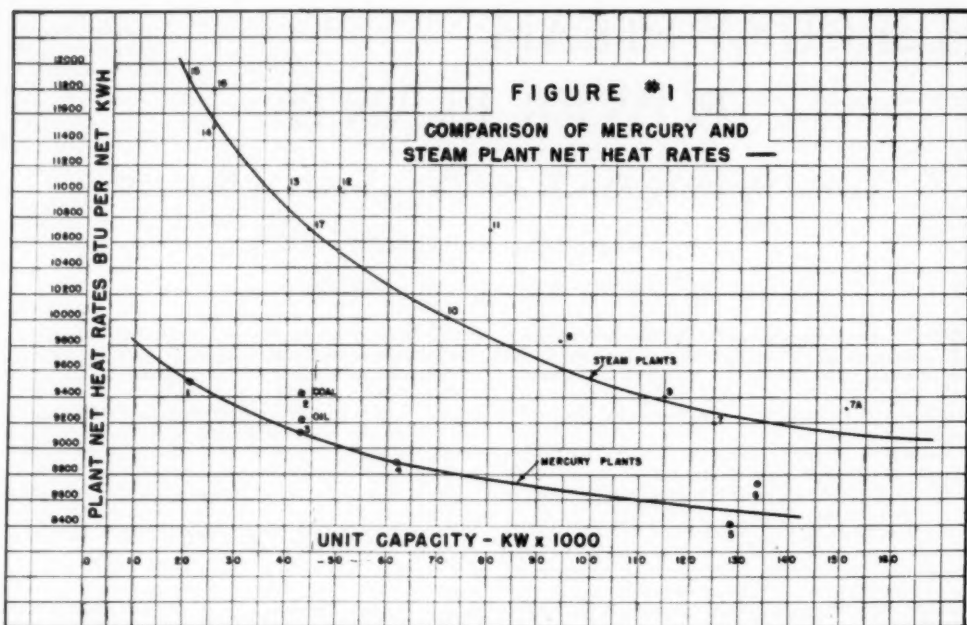

FIG. 1 COMPARISON OF MERCURY AND STEAM-PLANT NET HEAT RATES
A comparison of mercury and steam plant net heat rates is shown in Fig. 1, and it may be noted that the 40,000-kw Schiller Station (1),1 for example, using moderate pressure and temperature mercury-steam generating equipment, has a plant net heat rate that compares very favorably with the 100,000-kw Sewaren units (2) Fig. 1, items 8 and 9, and the 125,000-kw Philip Sporn No. 1 Unit (3) Fig. 1, items 7 and 7A. When compared with recently installed units of like capacity, the reduction in fuel consumption of the Schiller Station is in the order of 1300 Btu per net kw-hr or approximately 12 per cent. However, a 40,000-kw mercury-steam plant, utilizing a single 15,000-kw mercury unit and a 25,000-kw steam turbine designed to operate at 850 psig 900 F, would be expected to show about 15 per cent improvement in fuel rate per kilowatt-hour, Fig. 1, items 3 and 17. Further study of Fig. 1 shows that in every case the mercury-steam power-plant heat rates are materially lower than those of steam plants of comparable size.